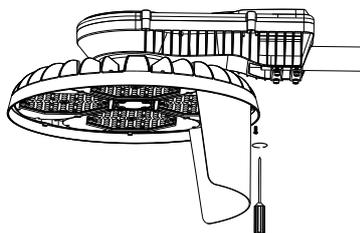

Figure 10
- Fix the light barrier to the luminaire with a screwdriver as required. (Figure 10)